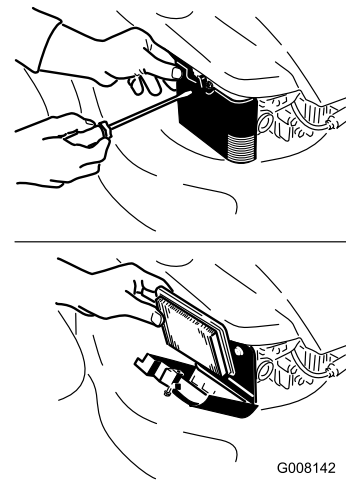

Figure 22
2. Open the air filter cover and remove the old air filter (Figure 22).